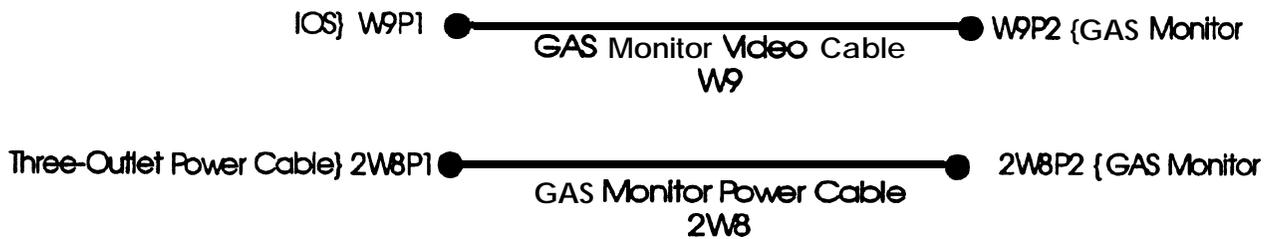
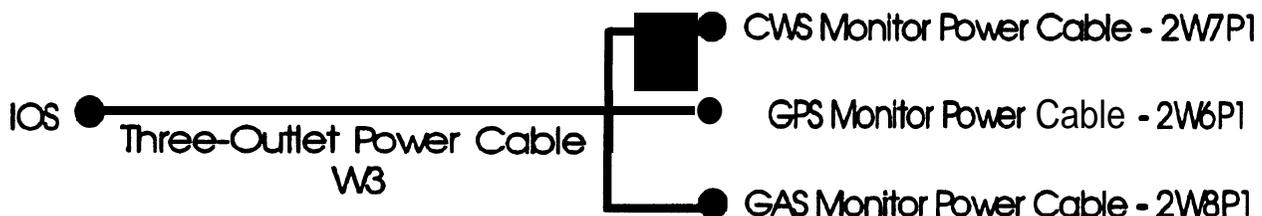

Figure 2-68. GAS Monitor Wire Diagrams
Figure 2-69. Power Cable W3 Wire Diagram
- g. Use Figure 2-68 as a guide to make the following monitor cable connections:
- (1) Connect video cable **W9** connector **W9P2** to the High Density D-sub connector on the monitor rear.
- (2) Connect ac power cable **2W8 2W8P2** to the ac receptacle on monitor rear.
- (3) Route the cables toward the main gun, under the turret overhang to the IOS.
- h. Use Figure 2-69 as a guide to position and connect power cable **W3**:
- (1) Connect GAS monitor ac power cable connector **2W8P1**, CWS monitor ac power cable connector **2W7P1**, and GPS monitor ac power cable **2W6P1** to blue three-outlet power cable **W3** at connector **W3P2**.
- (2) Route blue power cable **W3** to the IOS.